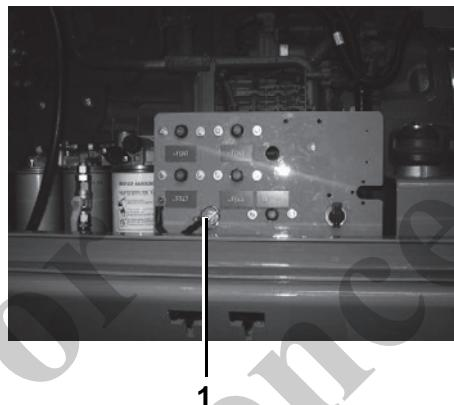

Fig. 7 Position of the battery disconnect switch
| 1 | Press the battery disconnect switch (1) in Fig. 7 to disconnect the power supply. |